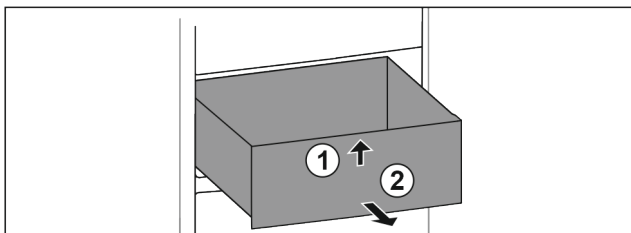

Fig. 83
- Lift up drawer at the front. Fig. 83 (1)
- Remove drawer to the front. Fig. 83 (2)